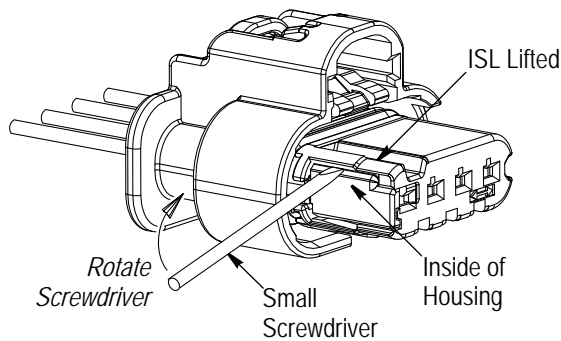

Figure 5
- a. Insert the tip of a small screwdriver into the open side of the ISL, and lift the ISL until it is free from the inside of the housing. See Figure 5.